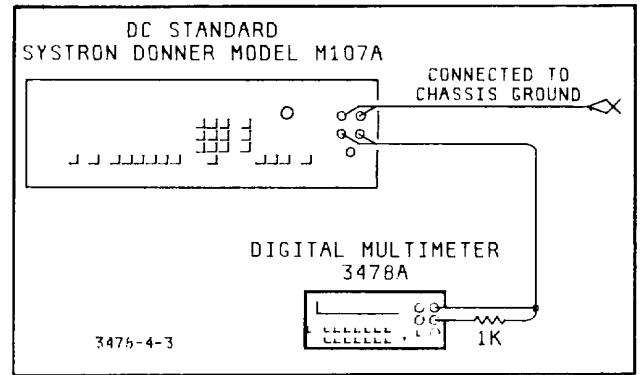

Figure 4-3. DC Common Mode Rejection Test
4. With the DC Volts Standard's output off, connect the standard to the 3478A as shown in Figure 4-3.
- j. Connect the AC-DC Calibrator to the 3478A shown in Figure 4-3.